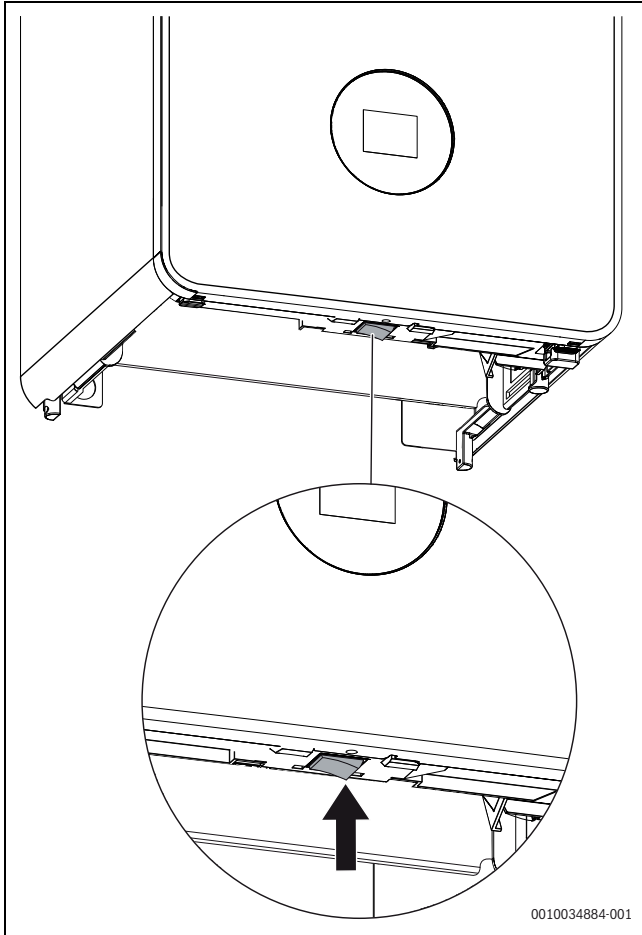

Fig. 1 On/Off-switch
► Switch off the device using the On/Off switch (→ Fig 1).